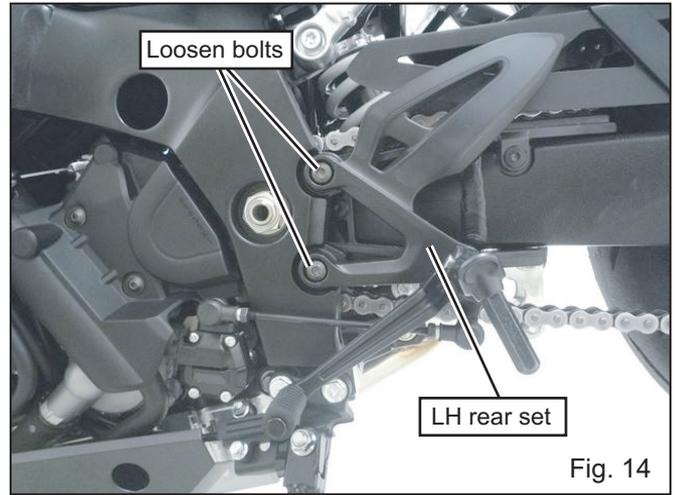

Fig. 14
- 16) Loosen bolts at LH rear set and remove it to fix Tailpipe with Hex Bolt M8x160 Full Thread, Washer M8x26, stock washers and stock flange nut. (See Fig. 14, 15 & 16)